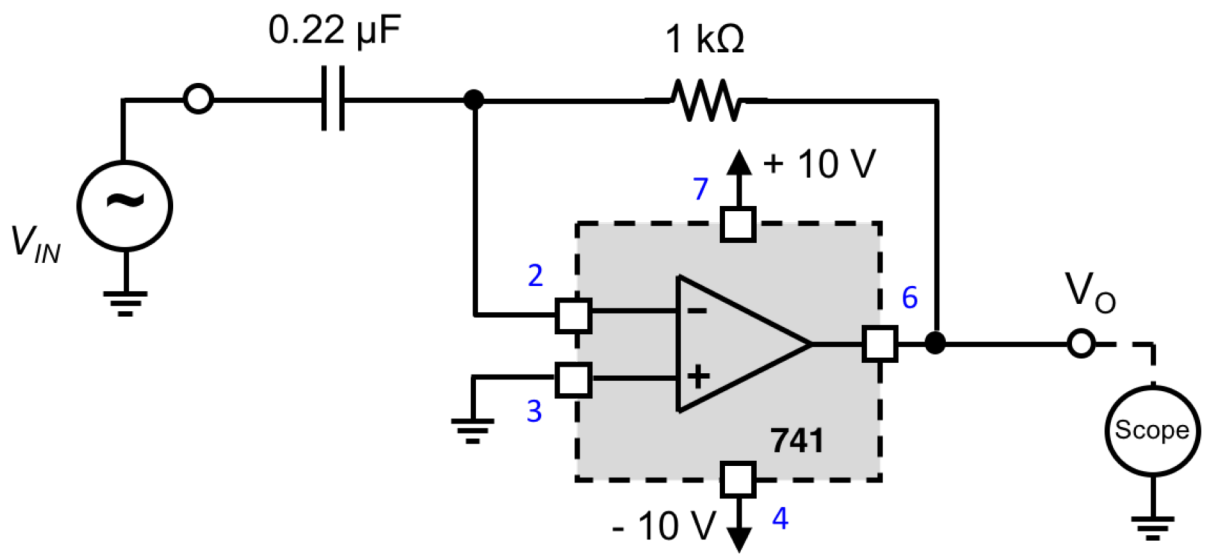
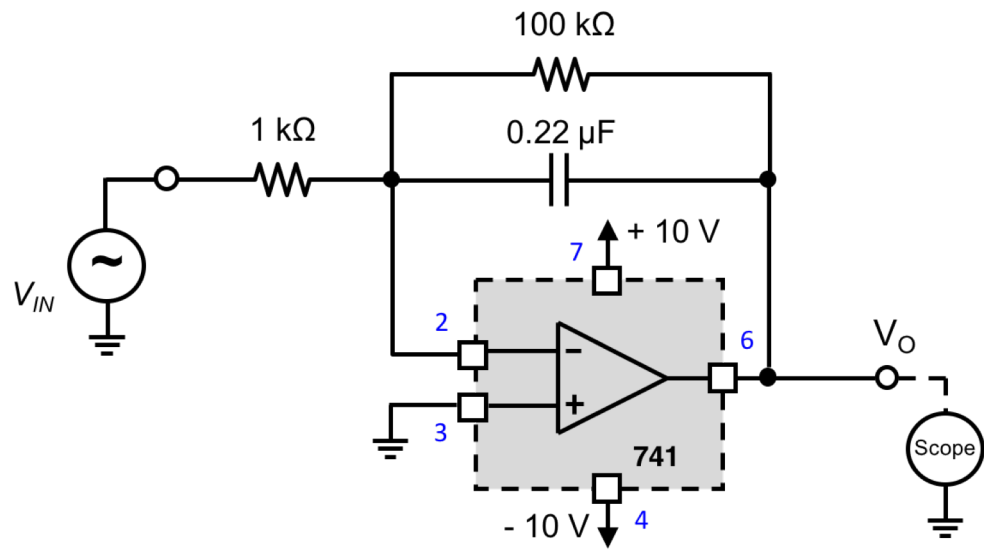

Fig. 7: Differentiator
Fig. 8: Integrator
(5) **Differentiator** (Fig. 7): This circuit differentiates the input voltage signal. Since the inverting input is at a virtual ground, the current that flows through the 0.2- μ F capacitor is proportional to the derivative of the input voltage signal, i.e.,
(6) **Integrator** (Fig. 8): In this circuit the capacitor and the resistor are interchanged from those in the differentiator circuit of Fig. 7, resulting in a circuit that produces an output, which is proportional to the integral of the input signal, i.e.,